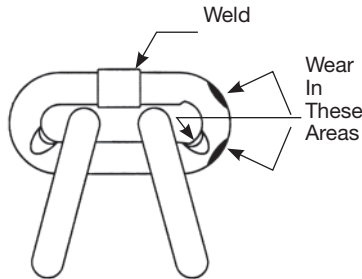

Figure 6 - Chain Inspection
1. Chain for excessive wear or stretch (See Figures 6 and 7, page 7) - every three months.